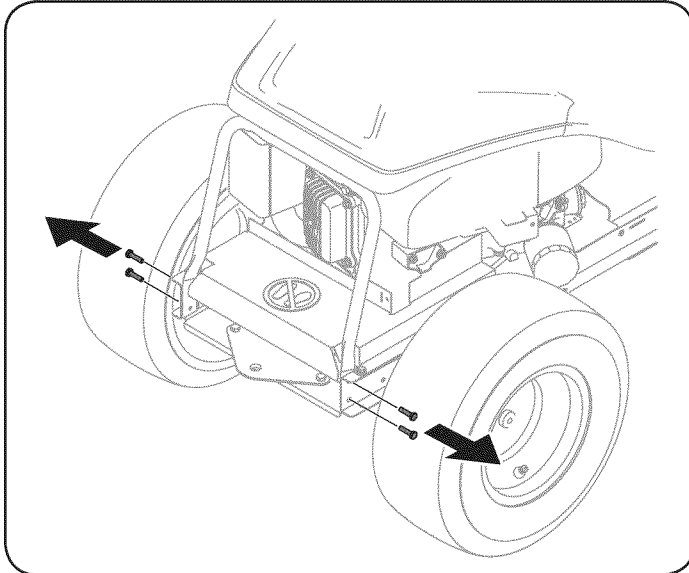

Figure 3
1. Remove, and discard, the four self-tap bolts on the rear frame of the tractor, as shown in Fig. 3.